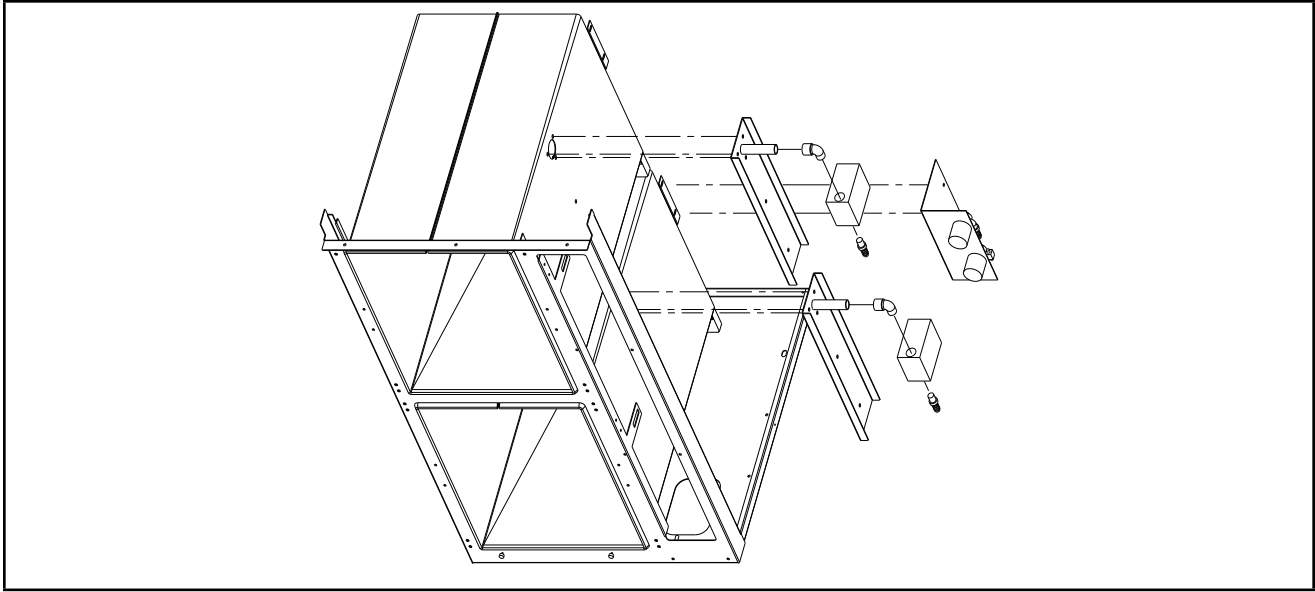

Figure 4-1 Pictorial Diagram, Steam and Water Circuits
The plumbing circuits consist of the piping, steam solenoid valves, orifice, drain, and cold water condenser required to provide controlled steam application to the cooking compartments. A simplified diagram of these circuits is shown in Figure 4-1.
*NOTE: Figure 4-1 is strictly a pictorial schematic diagram and is not intended to show the actual configuration of the plumbing. All components are shown in correct relationship with each other. However, the diagram does not show their actual locations or position within the cooker.*